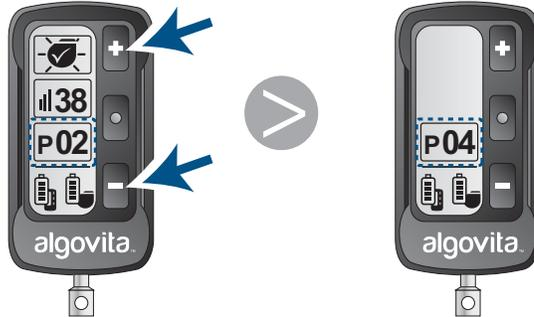

Figure 45. Selecting the new program
2. While **P #** is blinking, press **+** or **-** to select a new program (*Figure 45*).